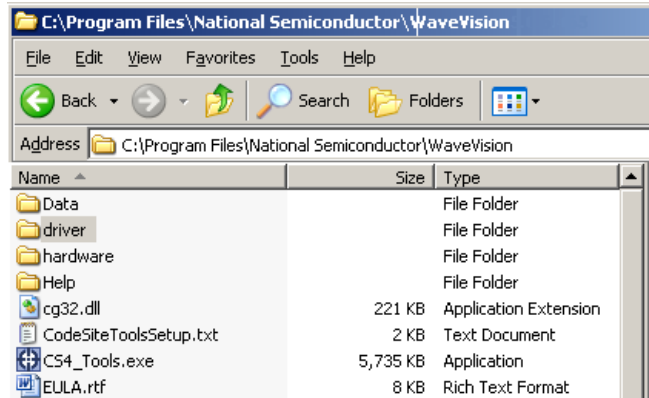

Figure 5: Driver folder in installation directory
7. Browse the file system to find and select the \driver folder in the installation directory of the WaveVision 5 software. Figure 5 shows an example location of the \driver directory.